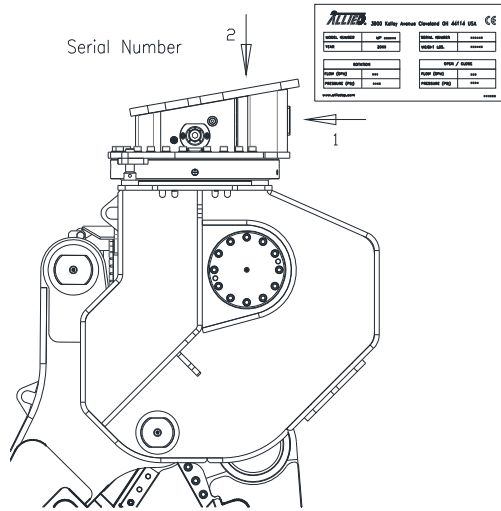

Fig 2-1 Serial Number Location
Refer to Fig. 2-1. The Serial Number assigned to the Allied equipment is located on the Equipment Identification Label. A duplicate label is located inside the subhead.
- Record the equipment's serial number to the space provided below. This information may be obtained from the Equipment Identification Tag. Refer to Fig 2-1 for the location of the tag.